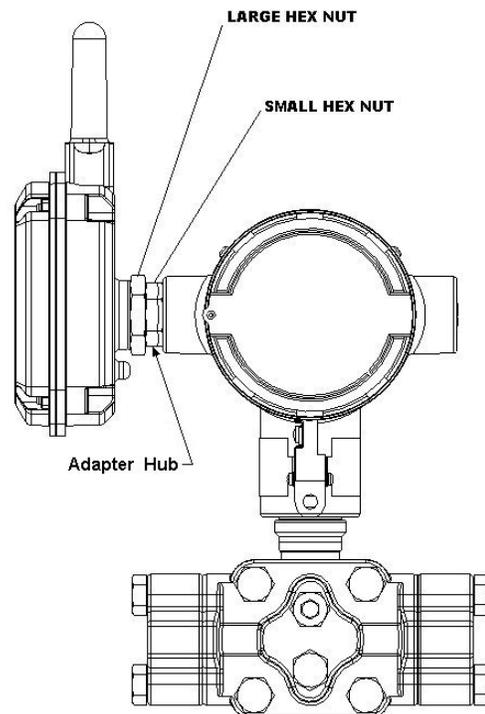

Figure 3-2 Installation, Back view
4. Insert wires through conduit entry of the unit to which it is to be mounted then start to thread the adapter hub into the conduit entry. Use the hex on the adapter hub (smaller hex - See Figure 3-2)) to securely tighten the adapter hub to the unit (See Note). To reorient the antenna of the adapter loosen the jam nut (Turn larger hex nut CC when looking at the front of the OWA 100 Adapter) and rotate the unit to the desired antenna location then retighten the jam nut to 9 N.m /7lb-foot.